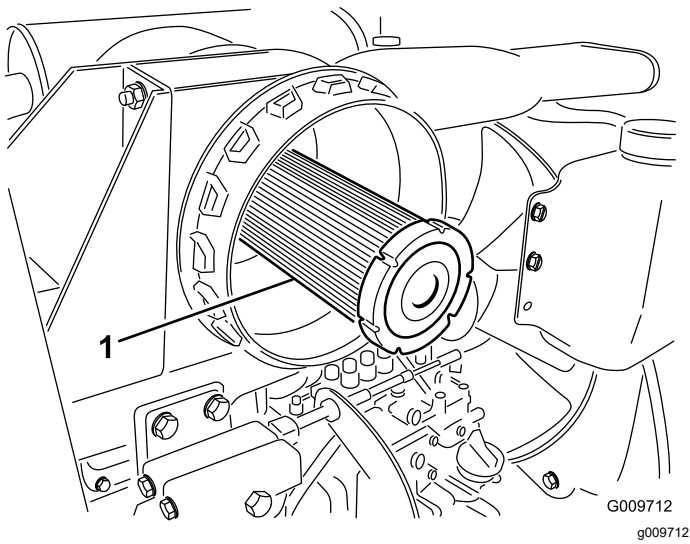

Figure 51
**Important:** Never attempt to clean the safety filter (Figure 51). Replace the safety filter after every 3 primary filter services.